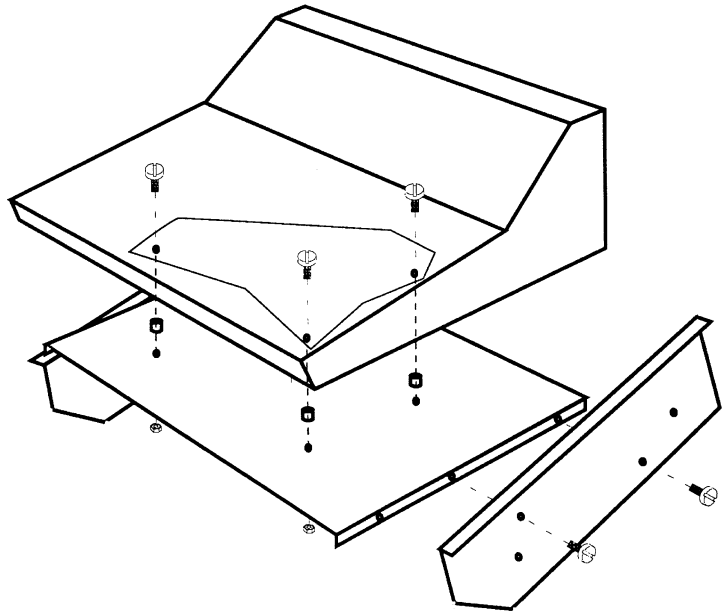

Fig. 7: Rack mount assembling for vertical insertion
- 4) Install the control panel and attach it to the rack mount using the 3 screws and spacer rings provided (see fig. 7).